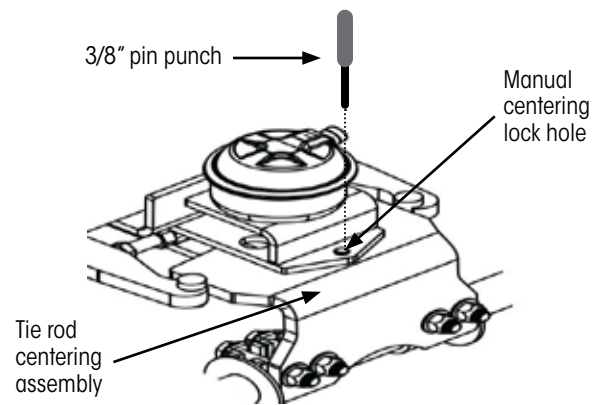

Figure 27: Locking wheels to straight position
3. **Center wheels and insert** a $\frac{3}{8}$ inch pin punch (or equivalent) into manual centering lock holes, as shown in Figure 27.
5. **Remove** dowel pin from the centering lock hole (Figure 27 on page 21).